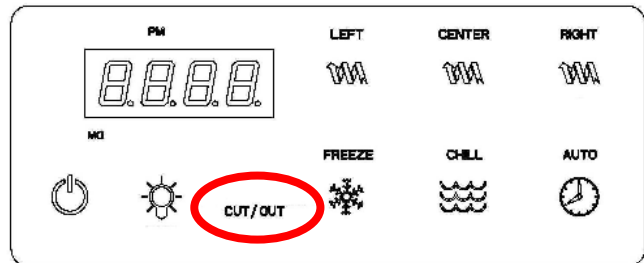

Fig. 11
A system over temperature message CUT/OUT will appear (fig.11) as a safety precaution when the unit has overheated to protect the compressor.
- When this occurs a CUT/OUT message will appear on capacitive display to alert the operator of this condition (fig.11).